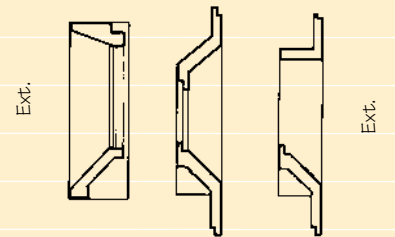

Fig. 12 Sculptured Profiles
- Offer flat or heavily sculptured profiles (Fig. 12)